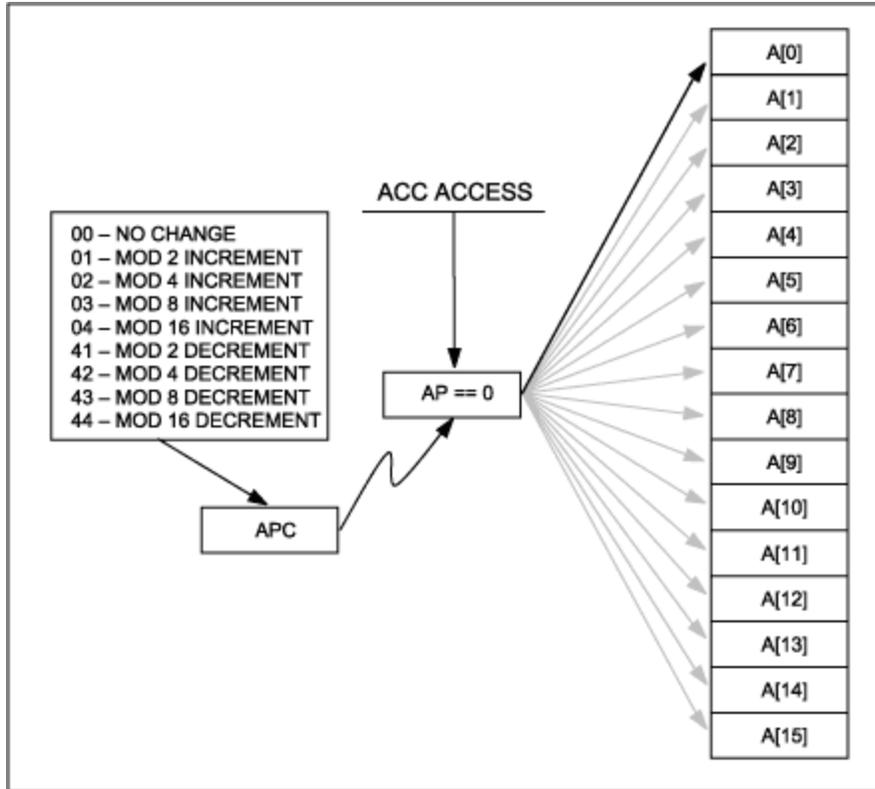

Figure 2. The active accumulator is designated by the AP register, which itself can be modified by accumulator access instructions.
Sixteen registers known as "accumulators" form a general-purpose register array. The register to which the Accumulator Pointer register (AP) points is designated the "active accumulator," which is the target of arithmetic and logical operations. Thus, by changing the value in the AP register, any of the 16 accumulators can be designated the target of an arithmetic logic unit (ALU) operation. The Accumulator Pointer Control register (APC) causes the AP to increment or decrement automatically whenever the active accumulator is accessed, making multiprecision arithmetic simple. In **Figure 2**, A[0] is the active accumulator, but any accumulator access can make A[1] or A[15] the active accumulator, depending on the value of the APC register.